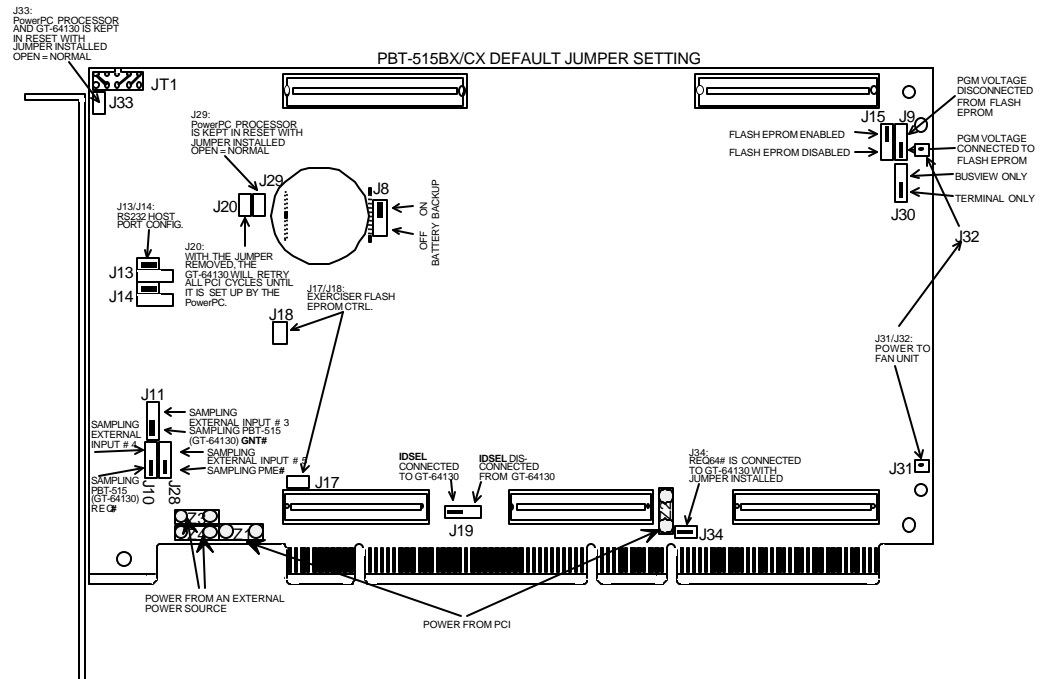

Figure 11.1 Jumper settings (default) on the PBT-515
- Try to clear the Non-volatile memory by moving the J8 jumper to the alternative position for a couple of second, and then back again. See Figure 11.1.
- Try to move the J15 jumper to the "Flash Eeprom disabled" position, and the upload procedure. Remember to move the jumper back again before running the firmware. See Figure 11.1.